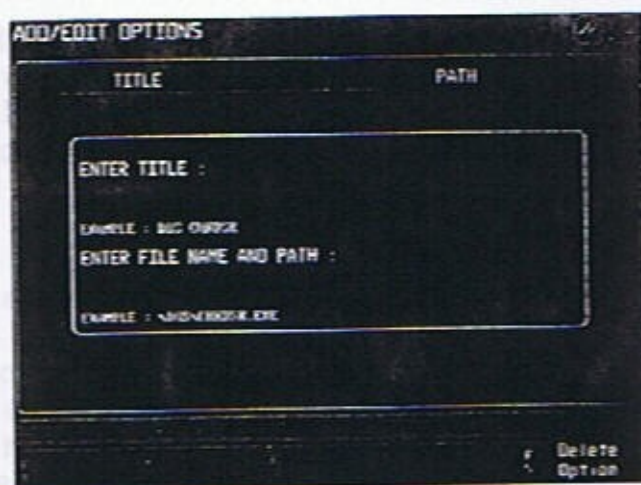

Figure 4-5
1. Press [1], *Add/Edit Other Options* to add a new software application to the analyzer. If no options are currently installed, the *Add/Edit Options* screen appears (see Figure 4-5).